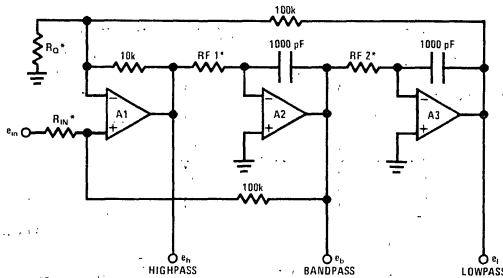

FIGURE 3. Non-Inverting Input (Q < Q_{MIN}, See Q Tuning Section)
b) Non-inverting input (Figure 3) transfer equations are: